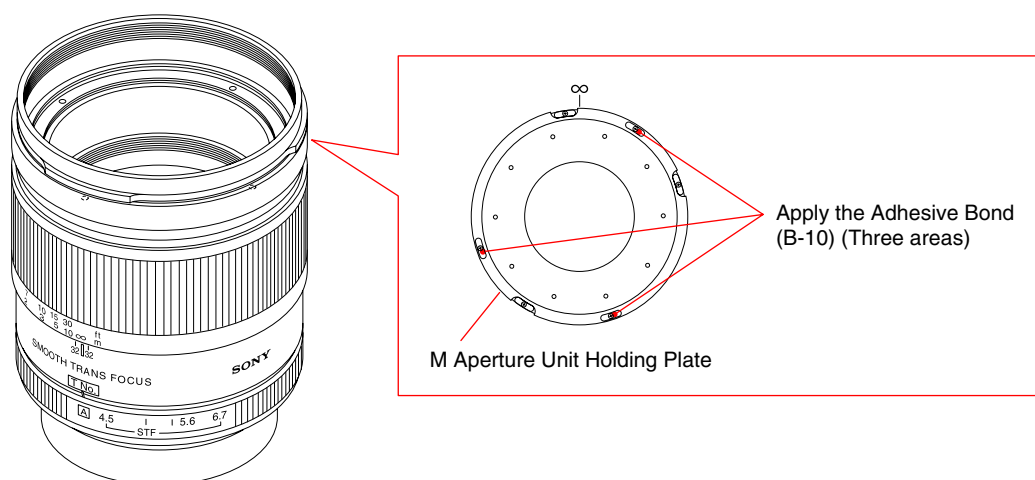

Fig.4-2-17
- 4) After the adjustment is completed, apply the adhesive bond (B-10) to the head of the three screws as shown in the Fig.4-2-17.